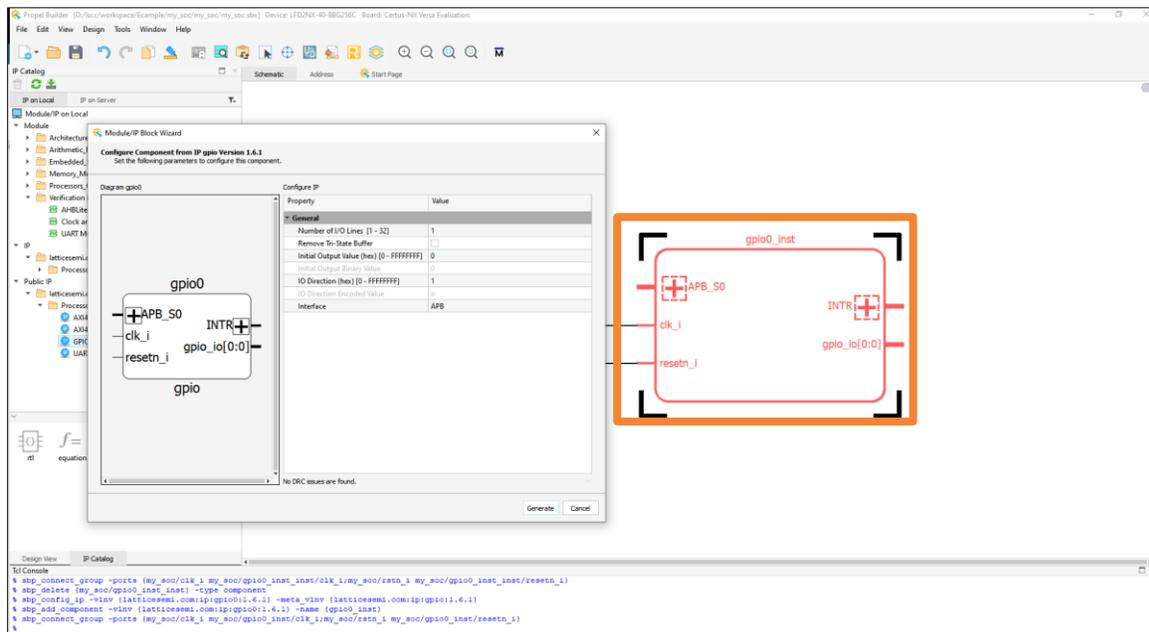

Figure 2.45. Regenerate Module/IP
10. (Optional) To re-generate this IP, double click on the instance. A Module/IP Block wizard pops up (Figure 2.45).